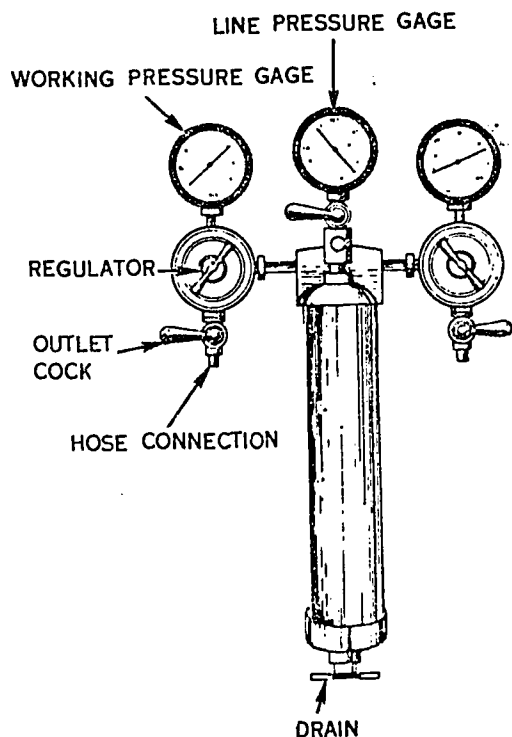

Figure 83. Air transformer.
16-60. Air Transformer. Since spray guns must be supplied with clean, moisture-free, regulated air, a special device must be installed in the air line to perform this job. The device is called an air transformer, illustrated in figure 83 with all its parts named. The air transformer has three functions: (1) it separates oil, dirt, and water from the compressed air before it enters a spray gun; (2) it reduces main line pressure to any desired working pressure for a spray gun; and (3) it provides convenient hose connections for one or more spray guns. The transformer is usually provided with gages which indicate the working pressures at the outlets.
16-61. Whenever an air transformer has only one working pressure regulator, all attached spray guns will have the same working pressure. However, if the transformer has two working pressure regulators, as shown in figure 83, the attached spray guns may be regulated to different working pressures.